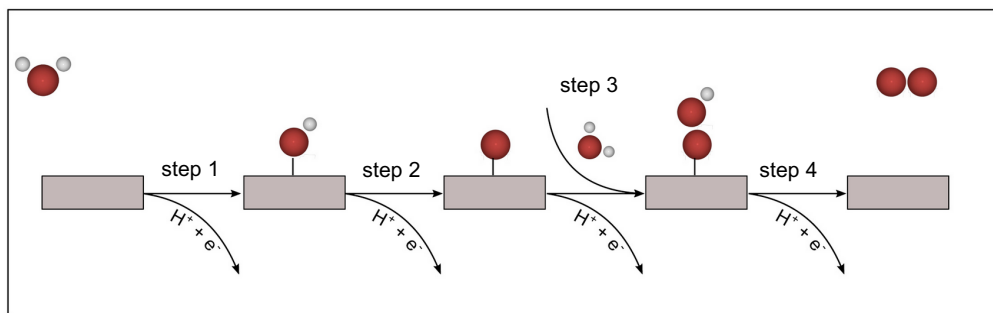

Fig 1.2
Fig 1.2 illustrates how the 4e-WOR proceeds under the presence of an electrocatalyst.
- (b) (i) With reference to **Fig 1.2**, write balanced half-equations for steps 2, 3 and 4. [3]
- (iii) The 2e-WOR proceeds via 2 steps. The first step is as per step 1 in **Fig 1.2**.